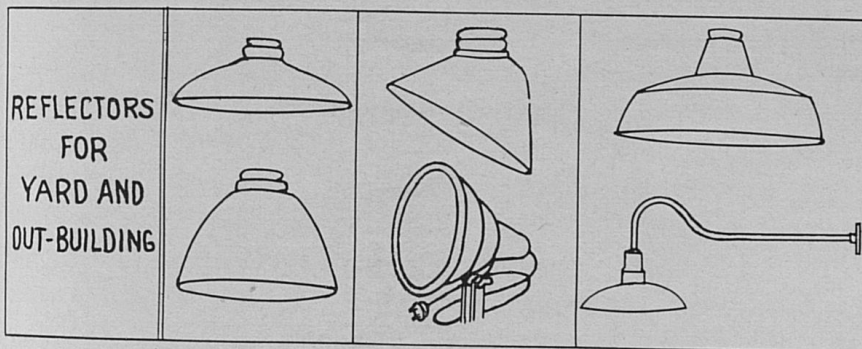

FIGURE 28. Reflectors for yard and outbuildings.
*Other Farm Buildings.* Garage, machinery shed, shop, hog houses and milk house should be wired with lights and reflectors (see Figure 28). Care should be taken to provide convenient outlets for portable motors (see Figure 29) and to see that the wires, switches and fuses or circuit breakers are of the proper sizes and installed according to the Code.